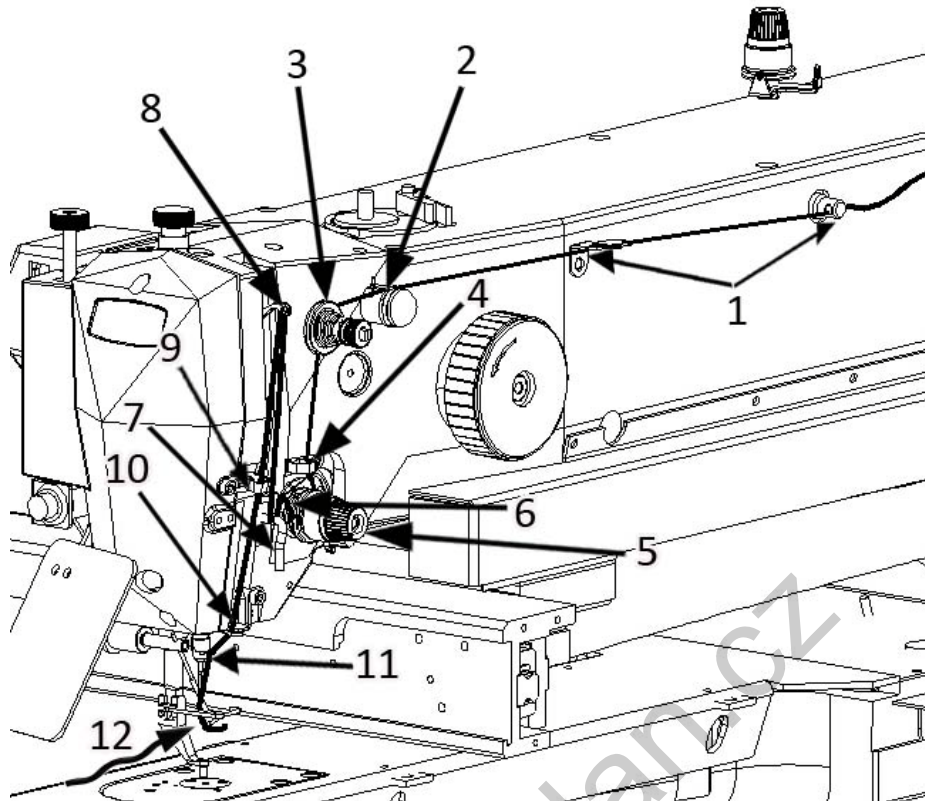

Fig. 29
Lead the thread from thread stand to guides (1) on the head of the machine. After that thread through silicon oil bottle for lubrication. After that thread through tensioner (3), guide (4), tensioner (5) and spring (6), guide (7) which is under the spring (6), needle lever (8), guides (9) and (10) and guide (11) to the needle. Please keep the direction to the needle (12), Fig. 29.